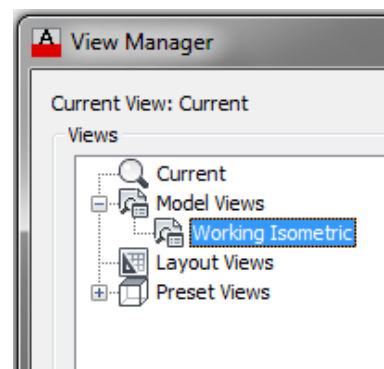

Figure Step 9
Step 9 Using the VIEW command, save the current view with the name: Working Isometric. (Figure Step 9)